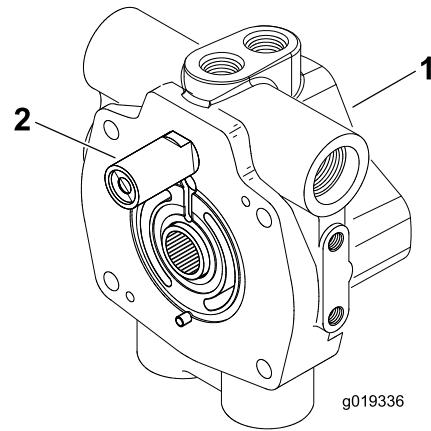

Figure 3
2. Capscrew (4)
10. Remove and discard the charge relief valve from the piston pump back plate (Figure 3). Also, remove the gasket.